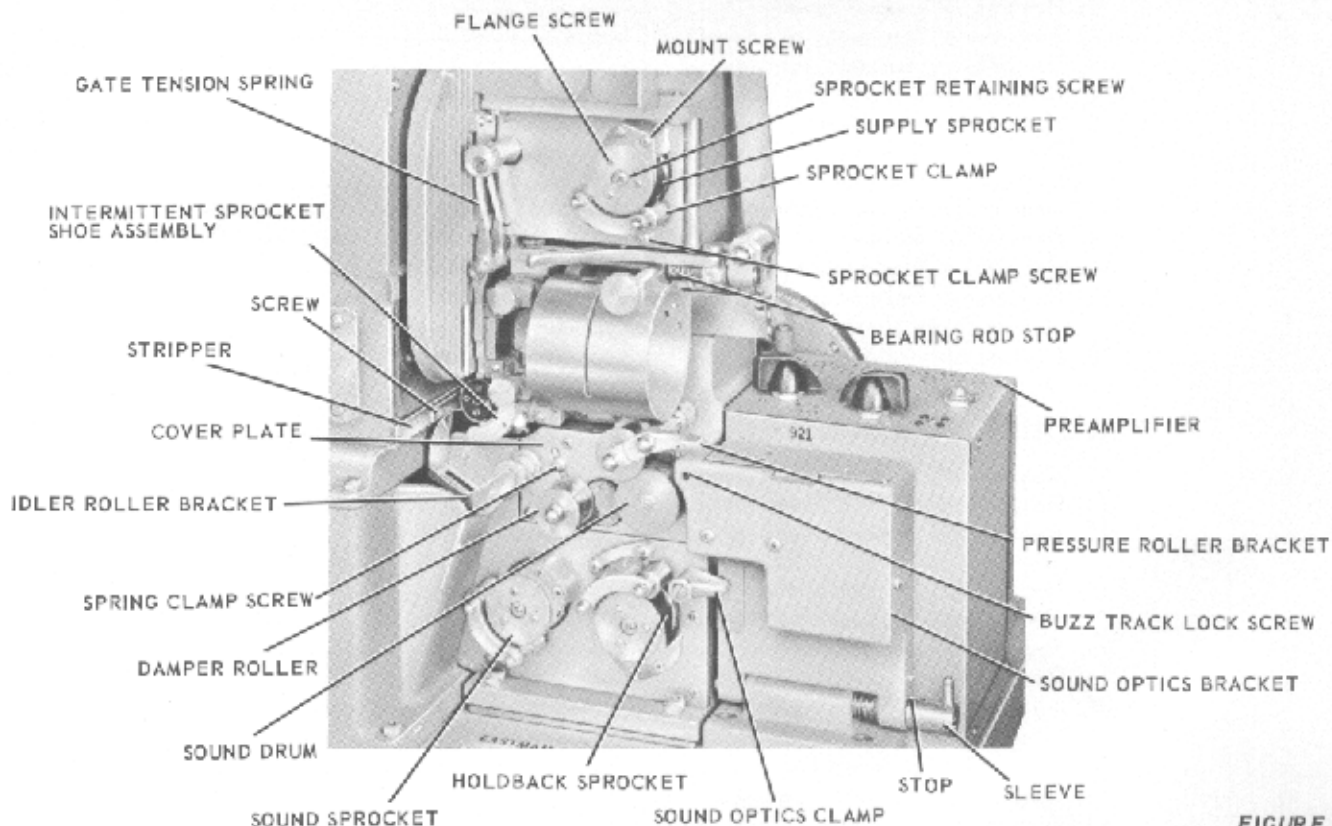
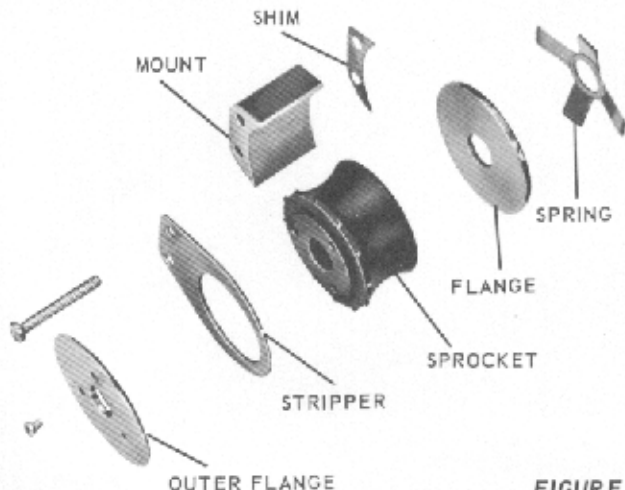

FIGURE 2
FIGURE 4
NOTE: The SUPPLY, the HOLDBACK, and the SOUND SPROCKETS, figure 2, are all similar. However, the base circle of the supply and sound sprockets has a greater diameter than the holdback sprocket. Scratched on the inner side of each sprocket is the diameter of the base circle. Be sure that the sprockets are replaced on the correct shafts.
b. Remove the three FLANGE SCREWS, figure 2, and the flange. Remove the two MOUNT SCREWS, stripper, and spacer (a shim may or may not be included in this assembly). Remove the SPROCKET RETAINING SCREW and pull the sprocket assembly from the shaft. Component parts are shown in figure 4.
a. Remove the IDLER ROLLER BRACKET, figure 2, by removing the two attaching screws. Be careful not to drop the screws into the fan housing directly beneath.
a. Disconnect the cord from the SOUND OPTICS BRACKET, figure 2, to the PREAMPLIFIER.
f. Loosen the SCREW, figure 2, in the outer end of the STRIPPER and lower the end of the stripper to clear the intermittent sprocket.
b. Remove the screw from the BEARING ROD STOP, figure 2.